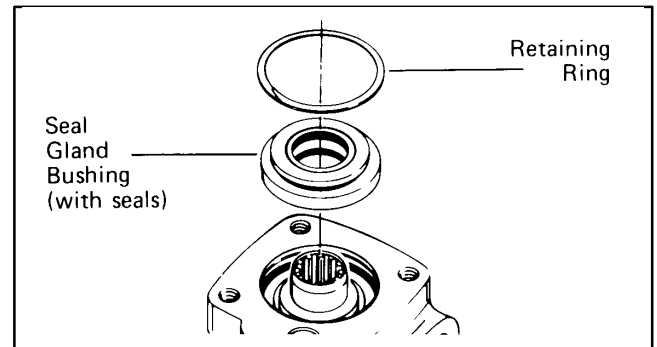

Figure 42
16. Install retaining ring (see Fig. 42 and 43) in housing. After installing ring, tap on ring end or pry with screwdriver around entire circumference of ring to properly seat ring in groove.